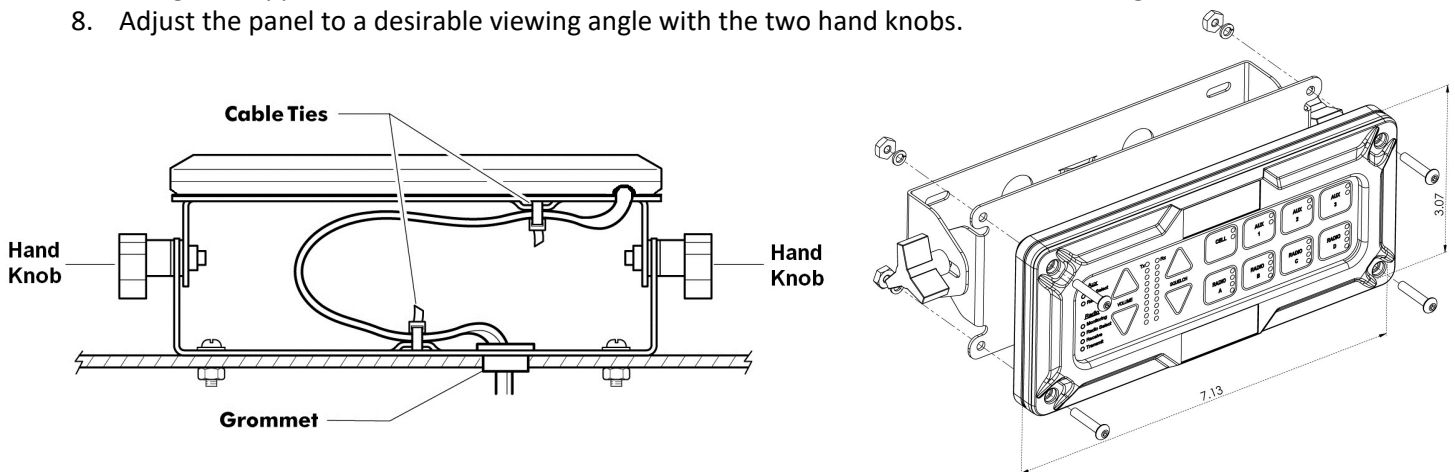

FIGURE 17: Remote Bracket (bottom view)
3. Snap the grommet into the bracket as shown in (Figure 17) and then use the bracket as a template to mark the mounting holes.
4. Drill (4) mounting holes: 7/64" for #6 sheet metal screws or 9/64" for #6 machine screws. Mount the bracket using the included hardware
5. Secure the Remote Head to the front of the bracket with the included machine screws, split washers, and nuts as shown in Figure 17. **Recommended torque: 10 in-lbs.**
6. Thread the cable through the bracket assembly as shown in (Figure 17).
7. Using the supplied cable ties secure the CA Cable to the bracket anchors as shown (Figure 17).